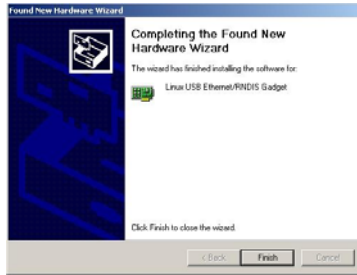

FIG. 35 Completing the Found New Hardware Wizard
9. Once the system finds the driver, it displays its choice (FIG. 35). Click **Finish** to complete the driver installation.